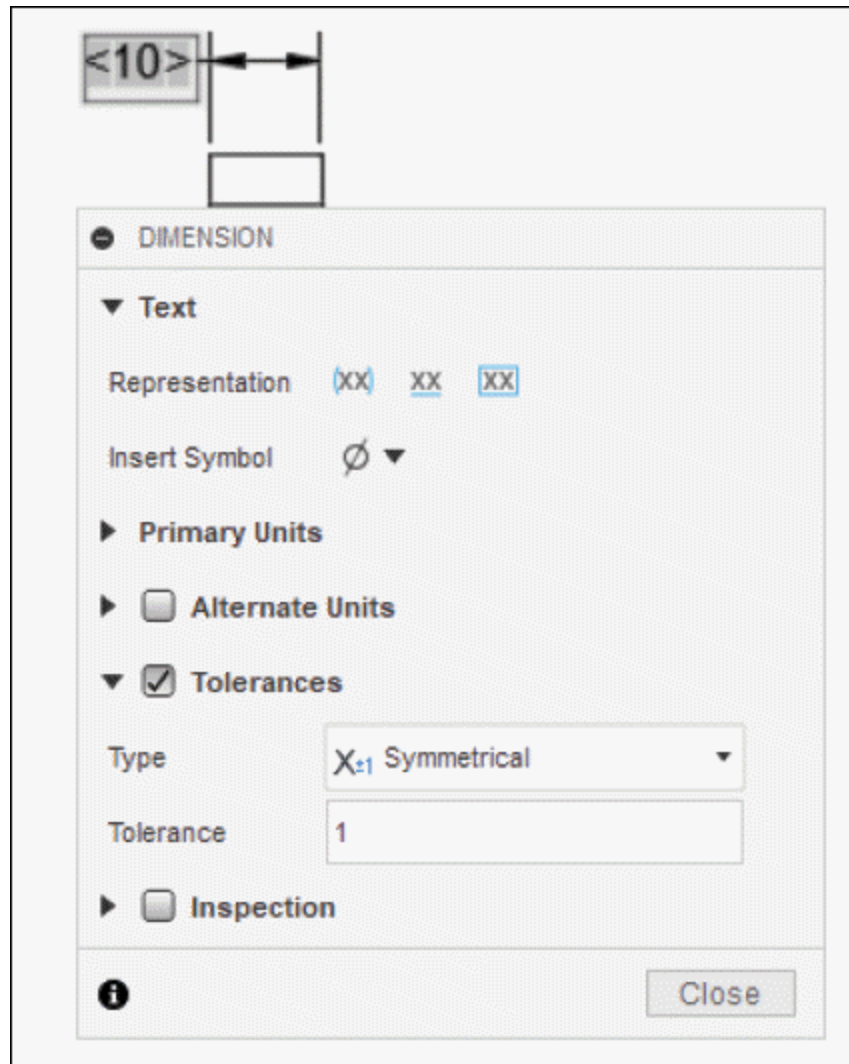

Figure-149. DIMENSION dialog box
- Double-click on the dimension with **10** value. The **DIMENSION** dialog box will be displayed; refer to Figure-149.